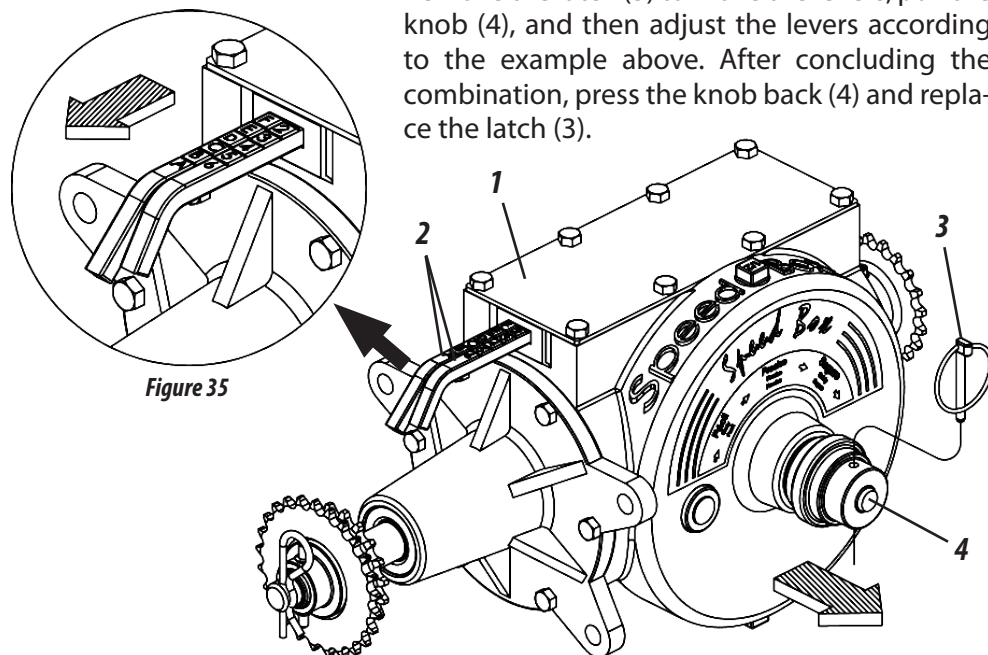

Figure 35
SPEED BOX (FIGURE 35)
- 1- Select the desired amount from the tables and verify the corresponding lever combination (2). **Example:** Position **F2** on the table, indicates that the letter lever must be in the **"F"** (Fertilizer) position and the number lever must be in the **"2"** position, **as shown in figure 35.**
- 2- Remove the latch (3) to move the levers, pull the knob (4), and then adjust the levers according to the example above. After concluding the combination, press the knob back (4) and replace the latch (3).
ADJUSTMENT FOR SPREADING FERTILIZER (FIGURE 35)